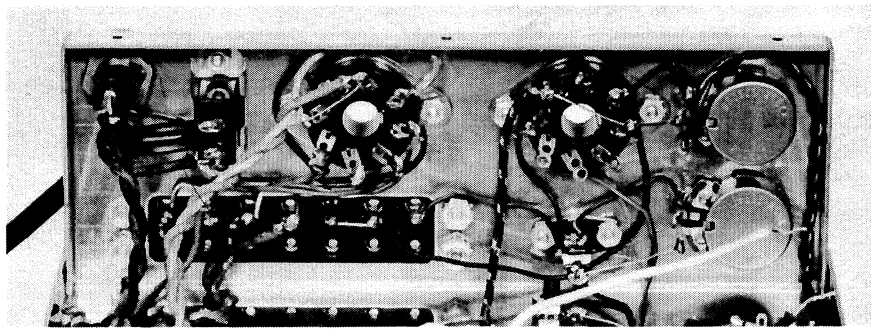

FIG. 11. END VIEW OF THE CHASSIS AS IT APPEARS AT THE COMPLETION OF STAGE 5. COMPARE THIS PHOTO WITH FIG. 10 ON THE SHEET OF DIAGRAMS
- Note: As you proceed with this stage, compare your work at each step with the diagram in Fig. 10, and the corresponding photograph, Fig. 11.
- Note: Press the wires from the lugs of socket S8 down against the chassis, and keep them together as they run across from the terminal plate. This is shown in Fig. 11.